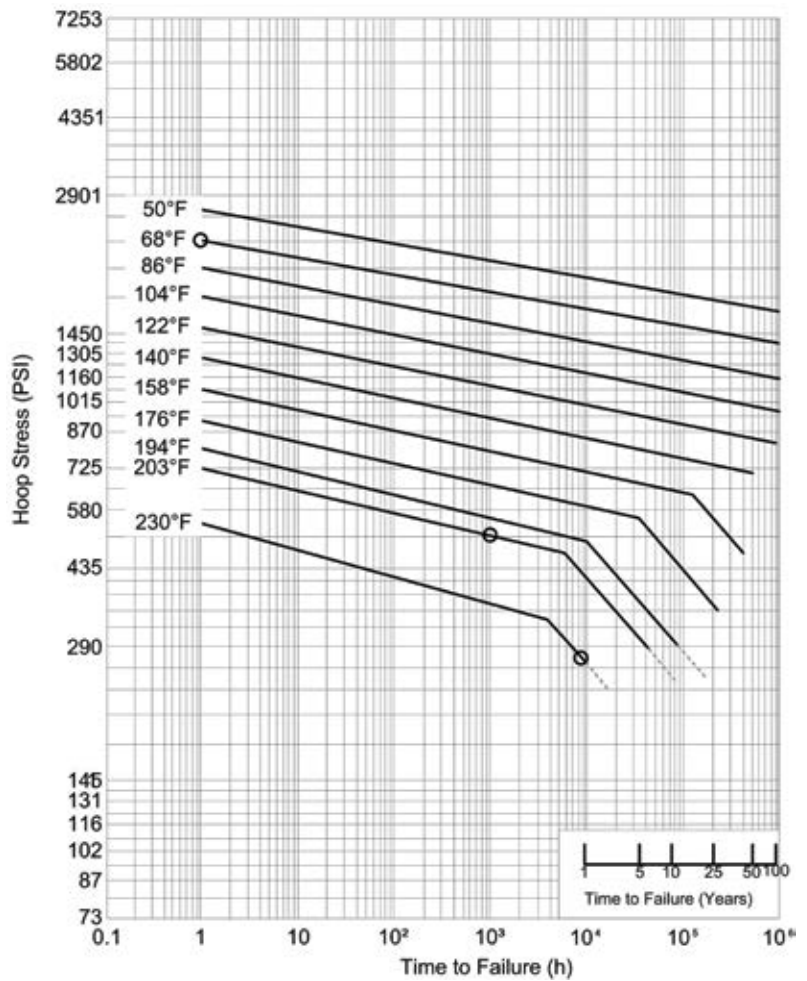

fig.1 ISO 9080 REGRESSION ANALYSIS for PP-R 80
**aquatechnik**® Fusion-Tech piping has used PP-R 80 material since the early 1980s. The number 80 correlates with ISO 9080 regression analysis, taking the value MRS=1160 psi (80 bar) from the 68°F curve for a duration of 50 years (see figure 1).